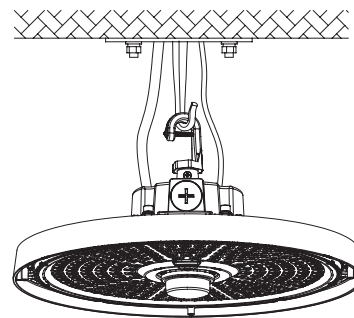

Figure 2
2. Hang the fixture on the ceiling hook or chain. (Figure 2)